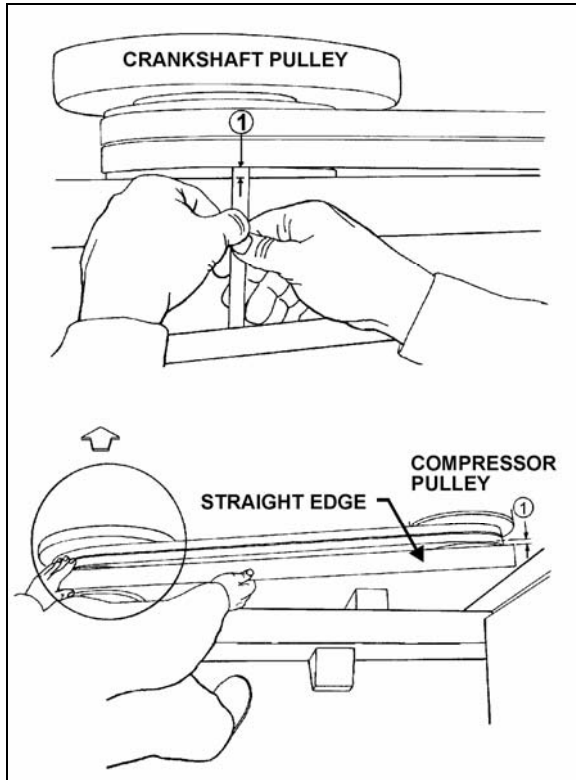
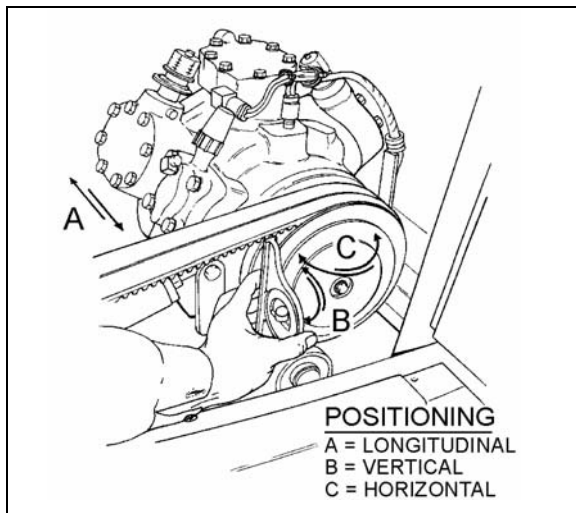

FIGURE 25: COMPRESSOR ALIGNMENT
FIGURE 26: COMPRESSOR ALIGNMENT
After belt replacement or during normal maintenance, belt play between idlers and belt must be checked to ensure proper operation. Refer to figure 25 for proper plays.
1. Rest an extremity of a straight edge of approximately 46 inches (117 cm) against the upper part of the outer face of crankshaft pulley, positioning the other end close to the compressor clutch pulley (figure 25 & 26).
2. Check the distance between each extremity of straight edge (1, figure 25) and the first drive belt. If they are different, loosen the compressor support bolts and with a hammer, knock support to slide it in order to obtain the same distance; then tighten bolts.
2. Check the distance between each extremity of straight edge (1, figure 25) and drive belt. If they are different, loosen the pillow block compressor bolts and with a hammer, knock compressor pillow block to slide it, in order to obtain the same distance; then tighten bolts.
Rest a short "angle and level indicator" on the outer side face of the crankshaft pulley, adjust the level indicator inclination at 0° and check if the compressor pulley is at same angle (figure 25 & figure 26). If it is not the same, shim under the appropriate pillow block in order to obtain the correct angle.